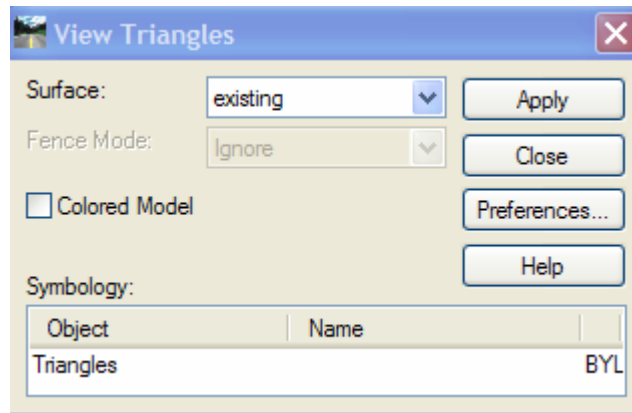

Figure 2-3 InRoads View Triangles Dialog Box
E. On the InRoads Main Menu Bar click on **Surface>View Surface> Triangles** (Figure 2-3).